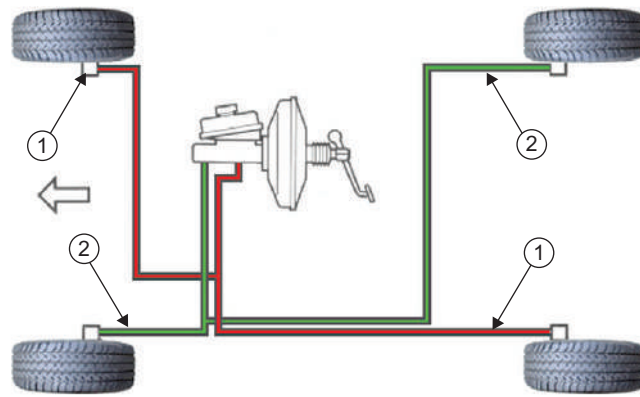

Figure 4.109 Diagonal split: 1, circuit 1; 2, circuit 2
- diagonal split type, where, if a fault occurs, the driver loses half of the front and half of the rear brakes (Fig. 4.109)